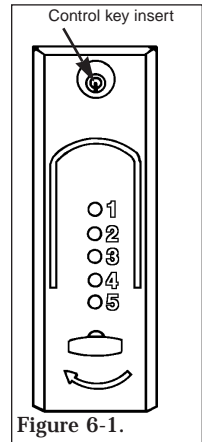

Figure 6-1.
- 1) Insert the control key into the lock and turn it 90° to the right (clockwise) to the horizontal position (see Figure 6-1) to unlock the front lock assembly from the mounting bracket.